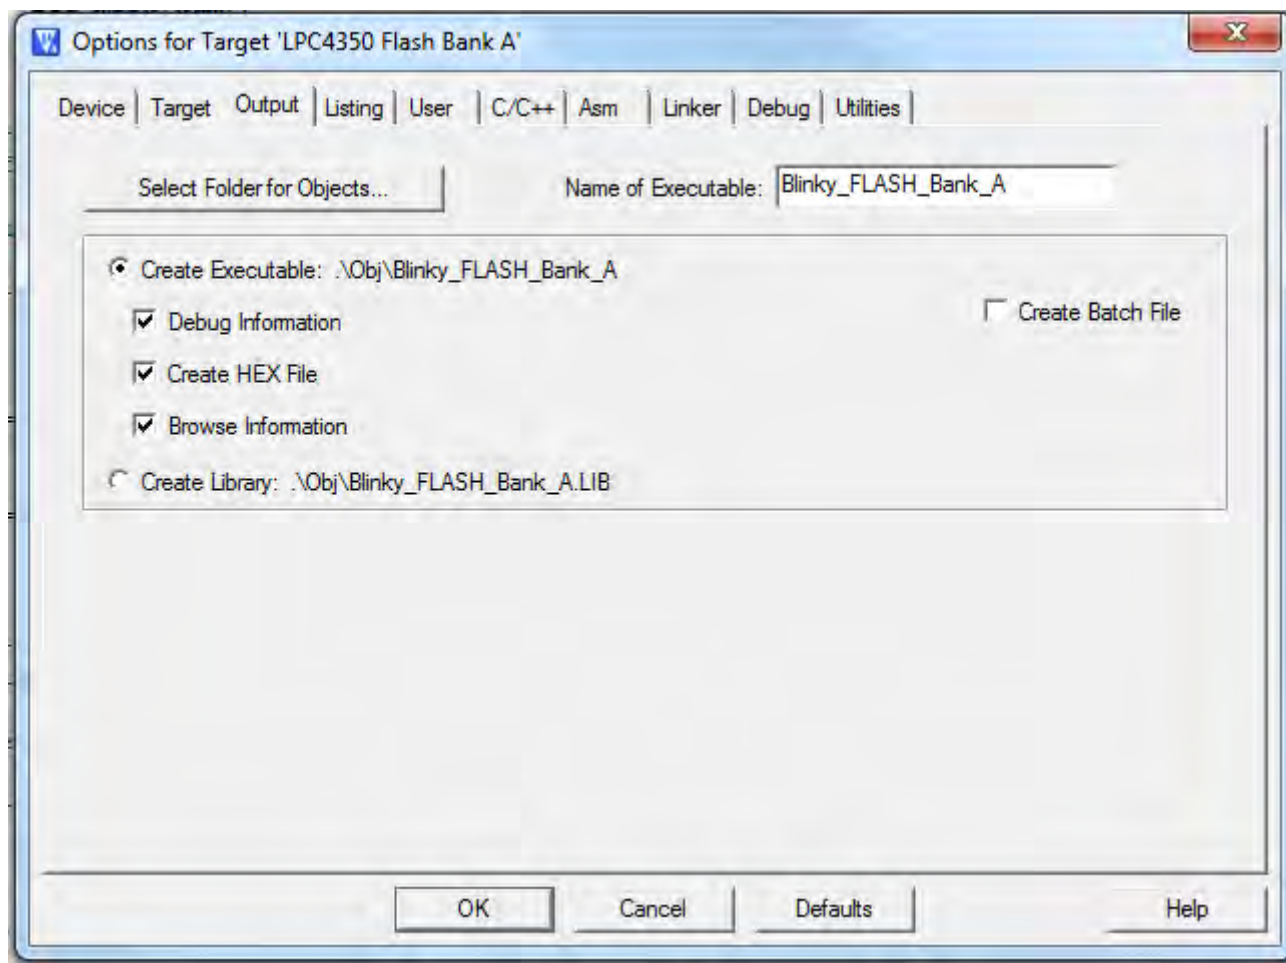

Fig 4. Options for Target Window – Output tab
- Click 'Output' tab and change the name of the executable to 'Blinky_Flash_Bank_A'. Also check the 'Create HEX file' option as shown in Fig 4. The compiler will generate 'Blinky_Flash_Bank_A.hex' file into default 'Obj' folder. This file will be used for programming flash using ISP. Click OK when done.